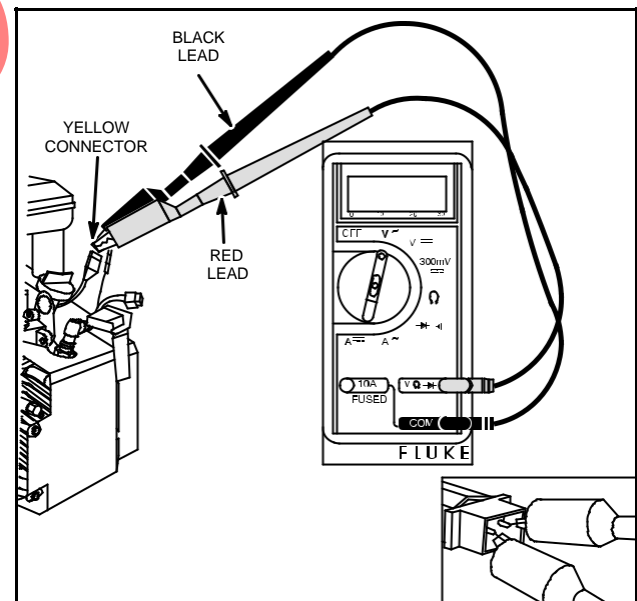

Fig. 29 – Testing AC Output
4. Attach RED test lead clip to one of the output pins in the yellow connector, Fig. 29.